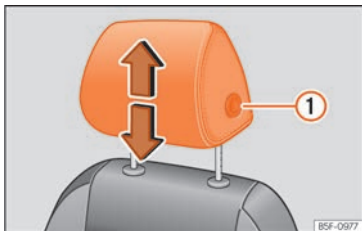
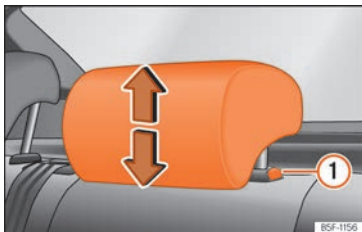

Fig. 129 Front seat: headrest adjustment.
Fig. 130 Rear headrest: headrest adjustment.
- Grab the sides of the headrests with both hands and push upwards to the desired position. To lower it, repeat the same action, pressing the ① »» Fig. 129 »» Fig. 130 button on the side.
- Press the side button »» Fig. 129 ① and remove the headrest.